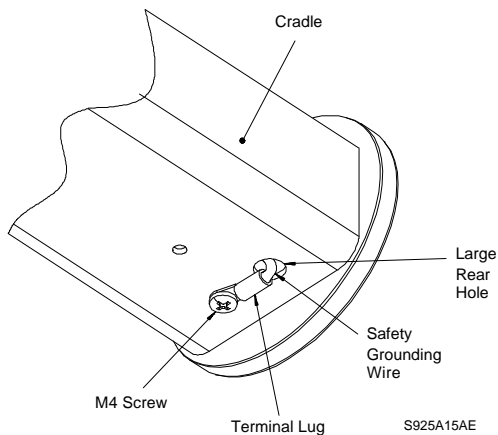

Figure 10: Securing Ground Wire
2. A screw/terminal lug is provided for securing a safety ground. To attach the safety grounding wire (green 115 volt, green/yellow 230 volt), first unscrew the terminal lug and strip and crimp the grounding wire into the lug. Next pull the grounding wire through the larger rear hole and attach the terminal lug to the cradle using the M4 x 10 screw provided. See **Figure 10**.